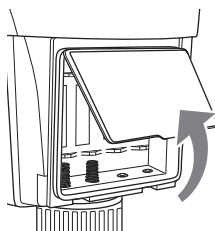

Fig. 2
- ♦ Lift the tab and remove the battery compartment cover **10** (see Fig. 2).